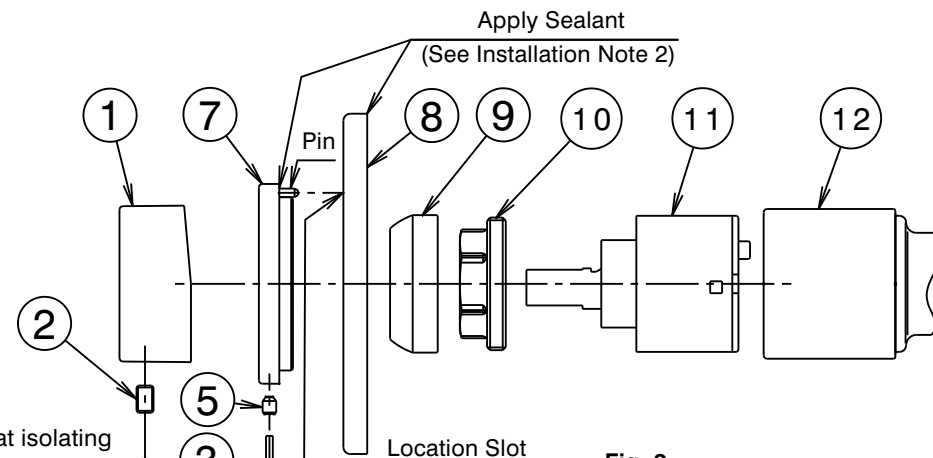
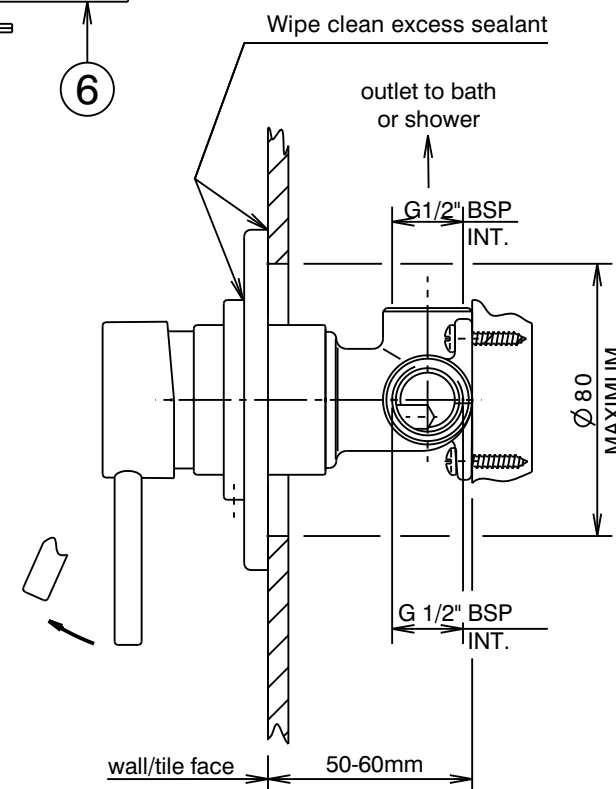

Fig. 2
Fig. 1
Installation (Fig. 1 & 2)
- 2) Apply a suitable clear sealant to the back edge of the cover plate (8), leaving an unsealed section at the bottom for drainage. Apply a suitable clear sealant in the corner around the location diameter of the retaining ring (7), to prevent water entering the wall cavity (See Fig. 2). Carefully fit the cover plate (8) followed by the retaining ring (7) onto the mixer body (12), ensuring the pin in the retaining ring is engaged in the location slot (with the screws at the bottom). Push the retaining ring and cover plate firmly against the wall/tile face and tighten screws (5) using 2mm allen key (6). Wipe clean any excess sealant from the decorative surfaces and the wall/tile face (See Fig. 1).
- 3) Fit handle (1) taking care that it is pushed fully down, tighten screw (2) using the 2.5mm allen key (3). Screw handle lever (4) into handle (1) and tighten firmly by hand, taking care not to damage the decorative finish.
Replacing Cartridge (Fig. 2)